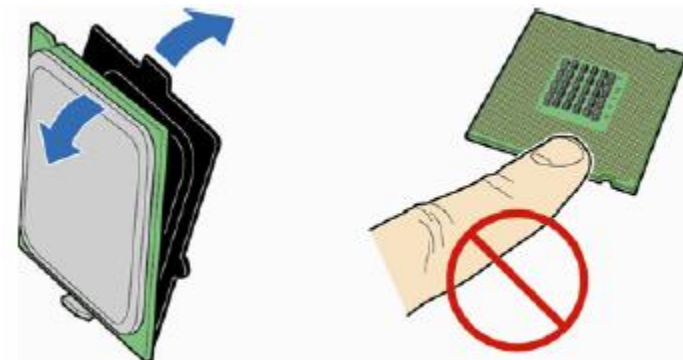

Figure 6: Remove the processor from the protective cover
3. Remove the processor from its protective cover. Hold the processor only at the edges, being careful not to touch the bottom of the processor (see Figure 6).